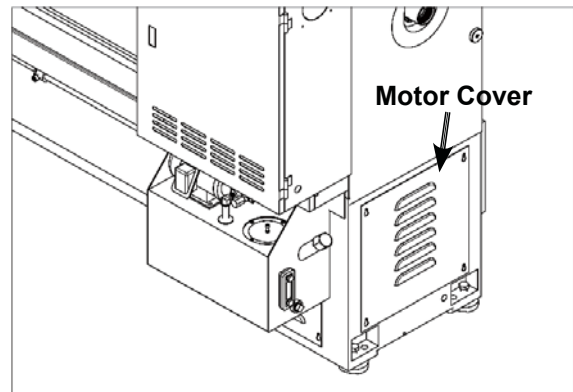

Figure 97. Location of motor cover.
2. Remove the cover shown in Figure 97.